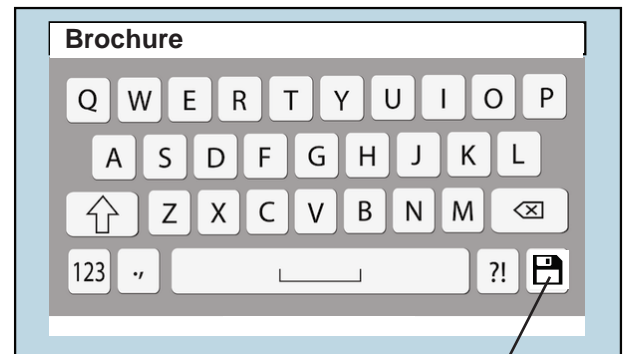

Fig. 28
5. Key in the name of the job (Fig. 28) and press the save icon in the bottom right corner.